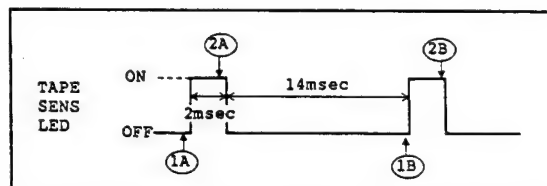

Figure I-29
The tape end detection LED lamp is turned ON and OFF by the TAPE LED signal output from Pin 30 of IC 051 (SERVO MI-COM) and flickers with the frequency shown in Figure I-29 in any mode. IC 051 (SERVO MI-COM) reads the BOT (H) and EOT (H) signals input to its Pins 22 and 23 at the positions 2A and 2B (shown in Figure I-29) respectively and will sense the tape end if either of the two signals proves to be at "L" level at the two positions consecutively. IC 051 (SERVO MI-COM) also reads the signals at the positions 1A and 1B and will sense external light if either of them proves to be at "L" level at the two positions consecutively. In this case, it will cancel tape end check.